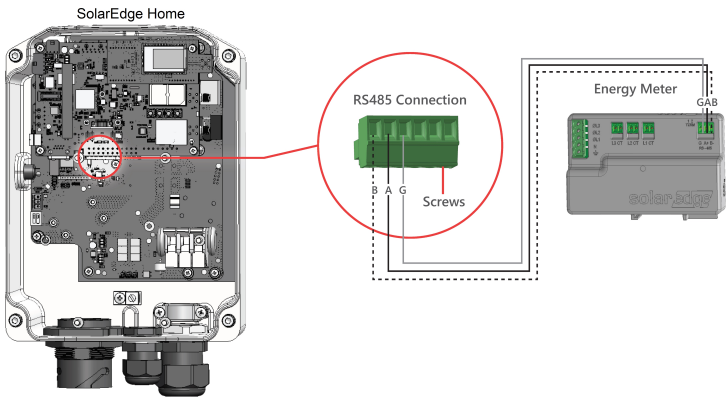

Figure 22: Meter connection
2. Remove the seal from one of the openings in the communication gland at the bottom of the SolarEdge Home EV Charger and insert the RS485 wires from the meter through the opening (see *Figure 22*).
3. Remove the 3-pin connector from the RS485-1 port on the communication board (see *Figure 22*).
4. Loosen the screws of the connector and connect the Energy Meter wires according to the connector label B to B, A to A, and G to G (see *Figure 22*).